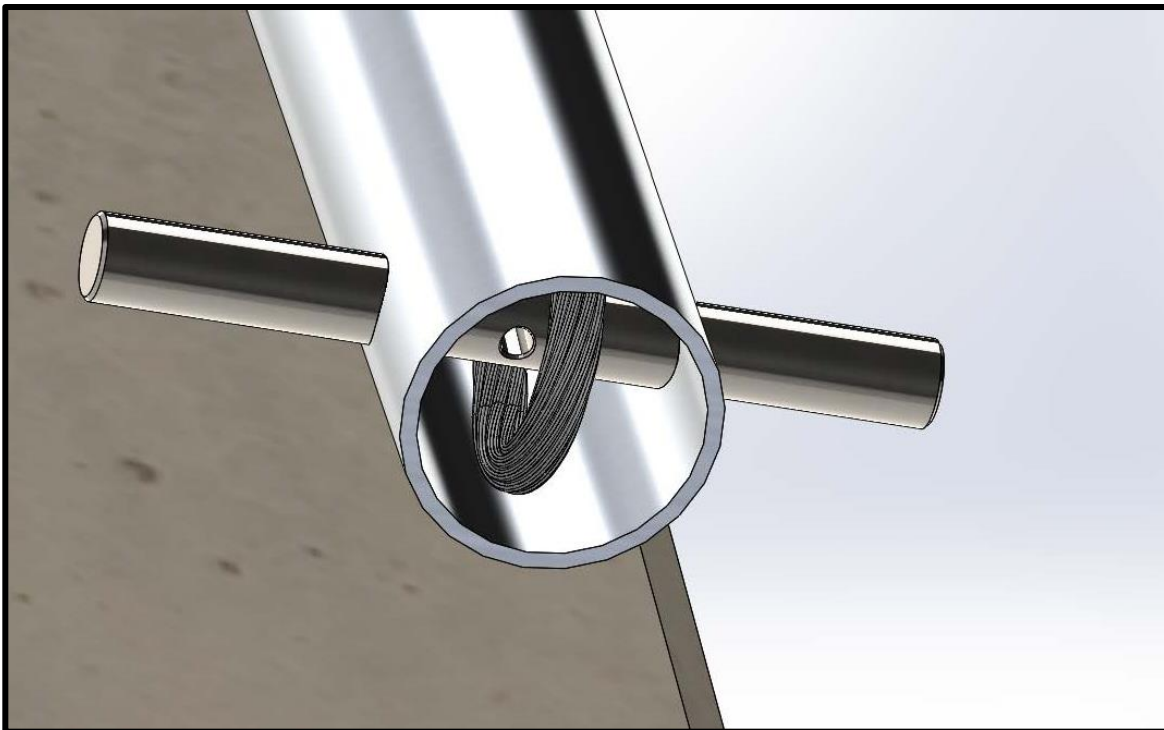

Figure 12 1 1/4" Bar Receiver end of Arm
4. Install 1 1/4" bar on opposite end of aluminum bar. 1 1/4" bar should go through the loop on the cable inside the aluminum tube. See Figure 12